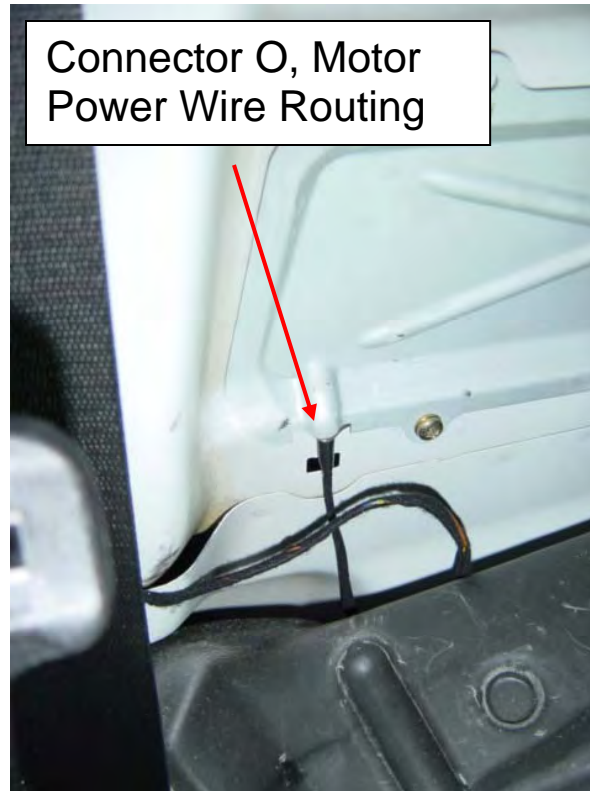

Figure 37 – Supplemental harness connector (O shown) to Motor
8.2.7 Replace X-Panel and ensure motor power cable is properly routed as shown in Figure 37.